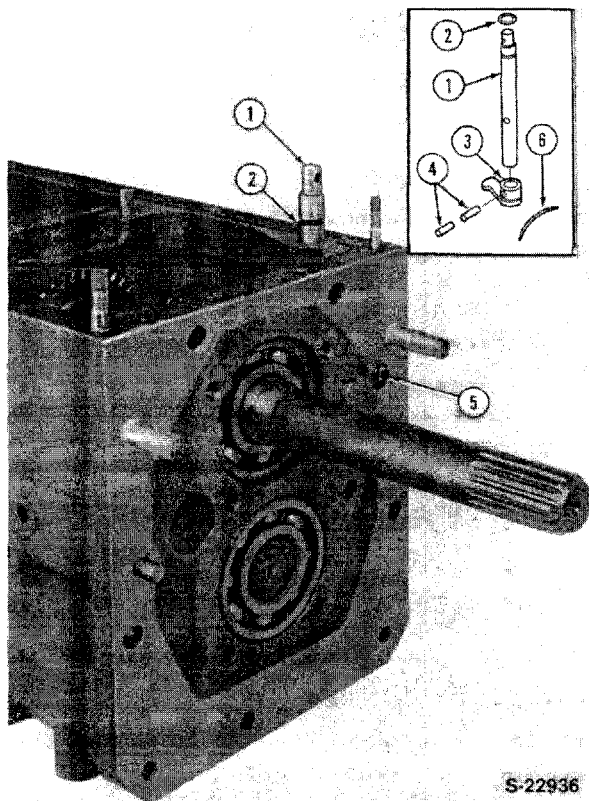

Figure 122
- Remove the plug (5), Figure 122.
- Remove the roll pin retaining wire (6).
- Drive the roll pins (4) out of the shift arm (3) and shaft (1), Figure 122, and remove the arm and shaft from the case.